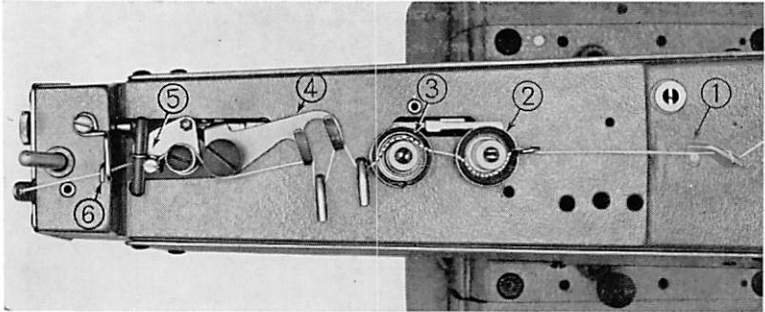

Fig. 6
9. THREADING THE MACHINE (Fig. 6, 7)
To thread the machine, put it in stop motion position, and thread in accordance with the diagram as shown in Fig. 6, 7. Start from thread spool stand → needle thread guide pin No. 1 ① → tension disc No. 1 ② → tension disc No. 2 ③ → thread pull-off lever ④ → nipper ⑤ → thread guide No. 2 ⑥ → upper eyelet of face plate → thread guide No. 3 ⑦ → needle bar bearing block and thread guide ⑧ → thread tension disc No. 3 thread guide ⑨ → tension disc No. 3 ⑩ → to the needle eye from front toward rear and draw the thread out about 6~7 m/m (about 1/4").
The thread pull-off lever (Fig. 6 ④) controls the amount of thread which is pulled through the tensions at the end of a stitching cycle to